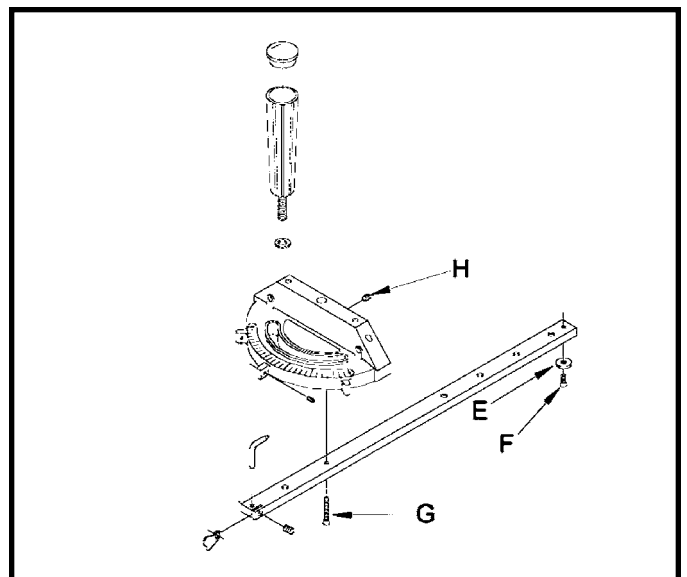

Fig. 116
The head of the miter gage pivots on a special tapered screw (G) that fastens the head to the miter gage bar. If the miter gage head does not pivot freely, or pivots too freely, it can be adjusted by loosening set screw (H) Fig. 116, and turning the screw (G) in or out. Be certain to tighten screw (H) after adjustment is made.
Your miter gage is equipped with a plate (E) Fig. 116, which fits into the T-Slot groove in the table. This allows the miter gage to be pulled off the front edge of the table without falling. This allows for a longer cut off capacity in front of the blade.